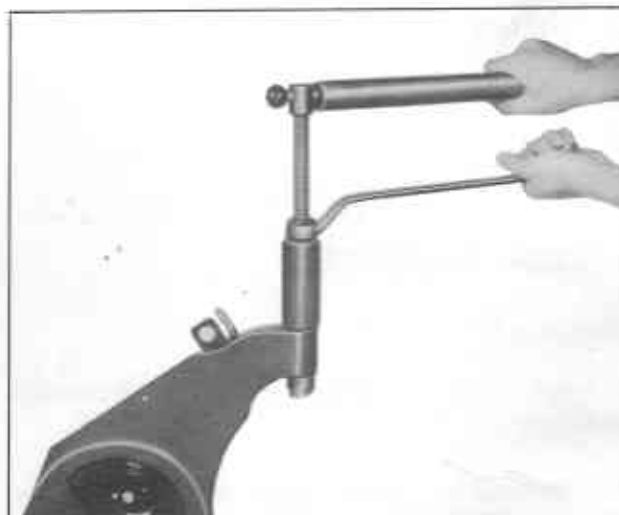

Fig. RA-14 Removing suspension arm rubber bush with special tool ST49160000
11. Draw out the rubber bushings from the suspension arm using the rear suspension arm bush remover special tool ST49160000 as shown in Figure RA-14.